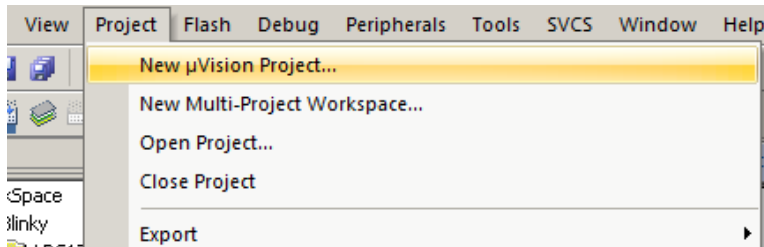

Figure 7.1: Keil IDE: Create a New Project
- Project  $\rightarrow$  New  $\mu$ Vision Project (See Figure 7.1)